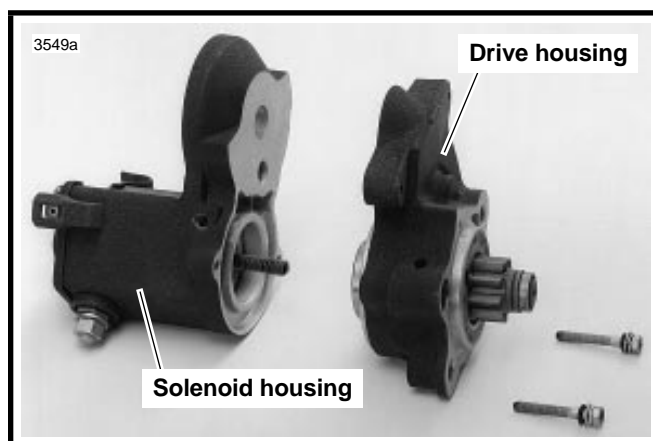

**Figure 5-21. Open Field Test**
13. See Figure 5-21. Check for OPEN FIELD COILS with an ohmmeter or continuity tester. Touch one probe to the field wire. Touch the other probe to each of the brushes attached to the field coils. There should be continuity. If there is no continuity at either brush, then the field coil(s) are open and the field frame must be replaced.